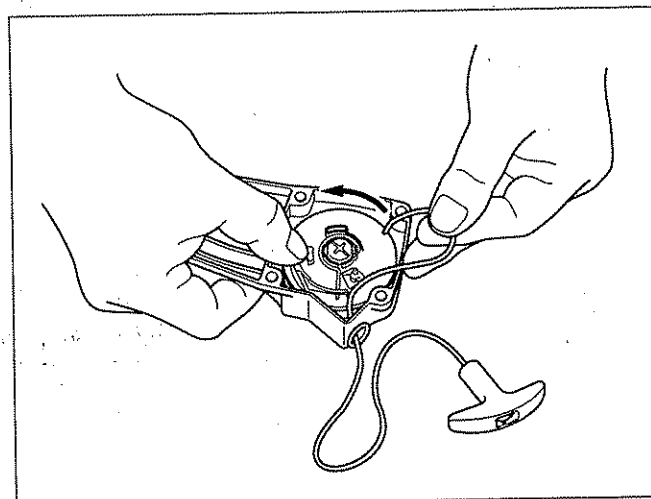

Fig. 9-5
- (3) Prior to installing the reel in the starter case, wind the starter rope to the reel in the arrow direction of Figure 9-5, take out the third turn of the starter rope from the reel notch and then install the reel securely inside the starter case so that the spiral spring inner end catches the hook. Next, hold the starter rope as shown in Figure 9-5, and rotate the reel 4 to 5 turns in the arrow direction by utilizing the reel notch. After winding the reel, hold it securely to prevent it from reverse turn and pull out the starter knob to stretch the rope tight and then release the knob slowly. Reassemble the parts in reverse order of disassembling shown in Fig. 9-2. Tighten the setscrew securely.